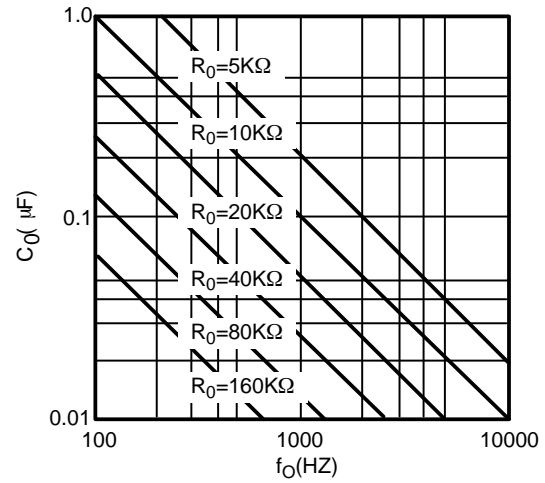

Figure 6. VCO Frequency vs. Timing Resistor
VCO Timing Capacitor (pins 13 and 14): VCO frequency is inversely proportional to the external timing capacitor, C_0 , connected across these terminals (see *Figure 6.*). C_0 must be non-polar, and in the range of 200pF to 10μF.
- b) Calculate value of C_0 from design equation (1) or from *Figure 6*. $f_S = f_0$: